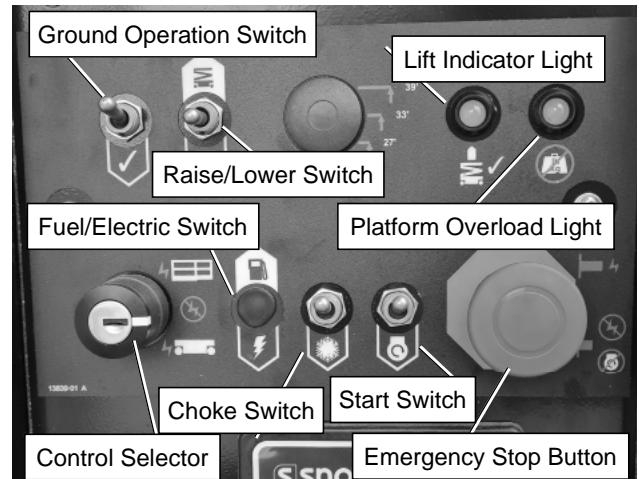

Figure 8.1 – Lower Controls
1. Pull the emergency stop button outward (refer to Figure 8.1).
1. From the lower controls, pull the emergency stop button outward (refer to Figure 8.1).